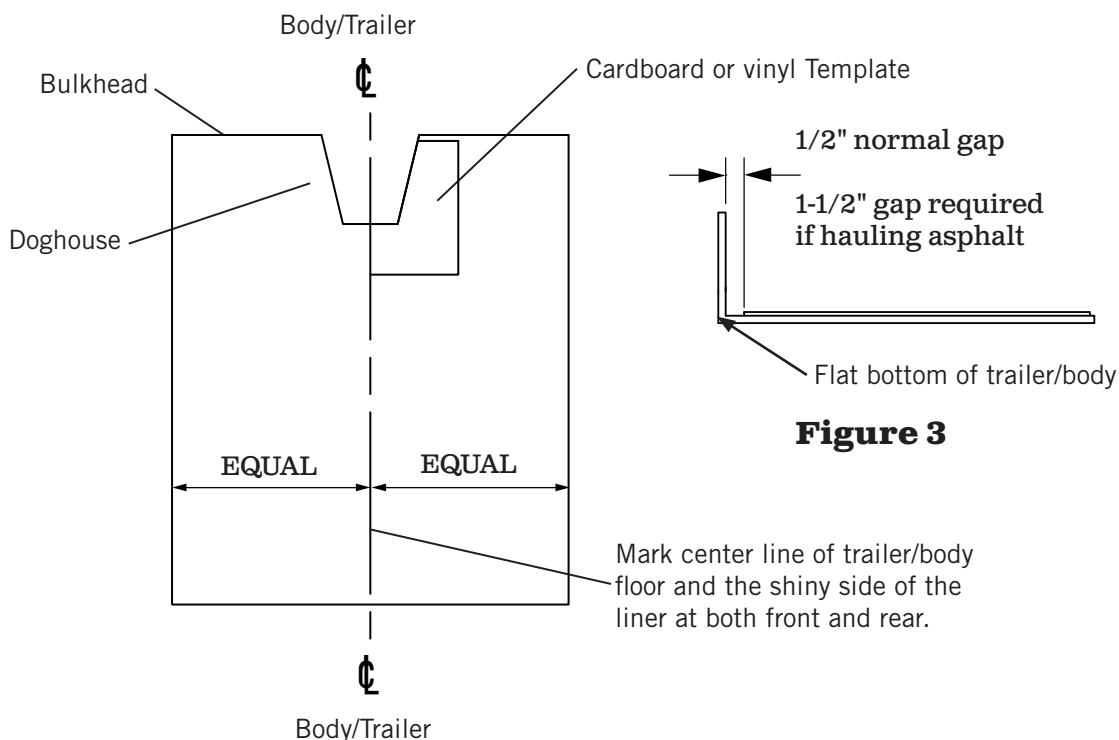

Figure 2
- 2) See Figures 2, & 3. Make a cardboard template from center line of the doghouse (flipping the template over should match the other side of the doghouse). For normal loads the template should be spaced 1/2" from doghouse/bulkhead and for asphalt loads the template should be spaced 1-1/2" from doghouse/bulkhead.